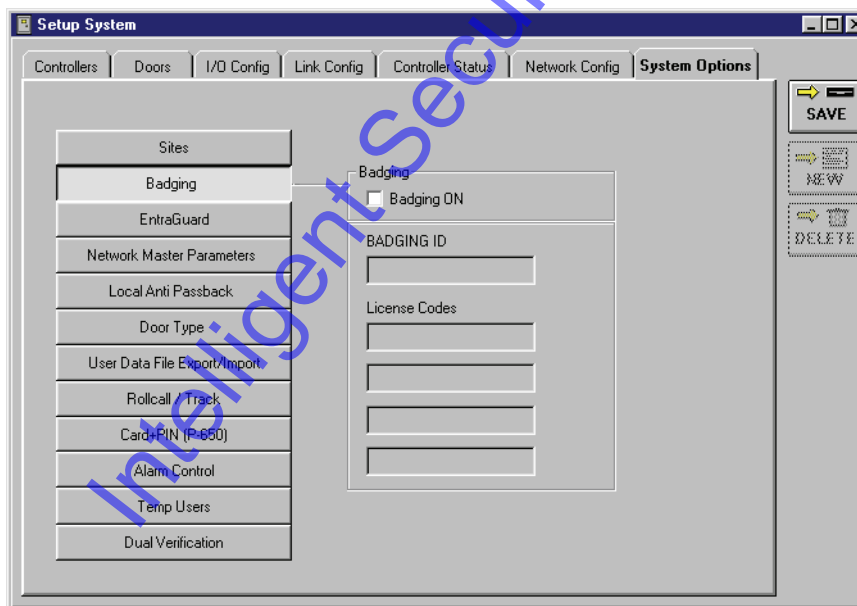

Figure 9-15: System Options Tab – Badging Disabled
2. Click the **System Options** tab. The System Options window appears (see Figure 9-15).
3. Click the  button to bring up the badging field (see Figure 9-15).
4. If your application does not use badging, verify there is **not** a check mark in the Badging ON box inside the “Badging” field (see Figure 9-15 – this is the default value).